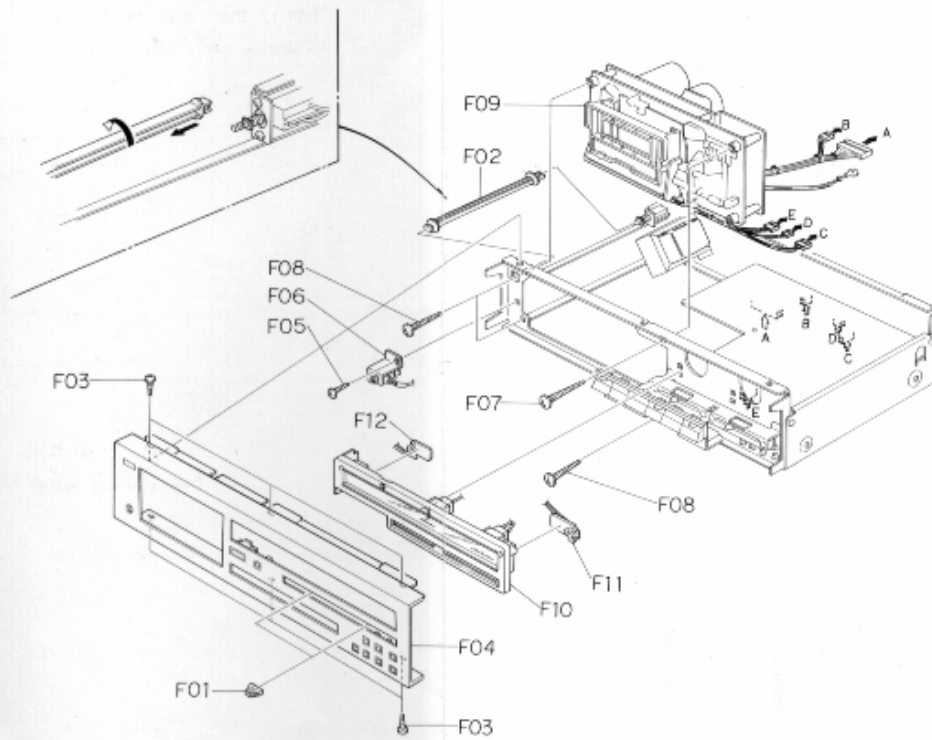

Fig. 3.2
Refer to Fig. 3.2.
- (1) Refer to Fig. 3.2. Remove Front Panel Ass'y referring to item 3.4.
- (2) Remove 5 connectors and the wires connected by wrapping from the F05 (Main P.C.B. Ass'y).
- (3) Remove F01, F02, F03, F04 and the Record Switch Linkage from the Wire Holder assembled with Record Switch, then disassemble F05 (Main P.C.B. Ass'y).
- (1) Refer to Fig. 3.2. Remove Meter Ass'y referring to item 3.7.
- (2) Remove F06, then disassemble F07 (Control Switch Holder Ass'y).
- (2) Remove F08, then disassemble F09 (Switch P.C.B. Ass'y).
- (1) Refer to Fig. 3.2. Remove Mechanism Ass'y referring to item 3.6.
- (2) Press the Eject Button to open the Cassette Case Ass'y.
- (3) Remove F01, then disassemble the piston of the Pneumatic Damper Ass'y.
- (4) Remove F02 and F03 (Cassette Case Holder L Ass'y), then disassemble F04 (Cassette Case Ass'y).
- (5) Remove F05, then disassemble F06 (Cover Plate Ass'y).
- (2) Remove F07, then disassemble F08 (Tape Counter Ass'y).
- (2) Remove F01 and F02, then disassemble F03 (Fly wheel Holder Ass'y) and F08 (Capstan Belt).
- (3) Remove F04, then disassemble F05 (Capstan Motor Ass'y).
- (4) Remove F06, then disassemble F07 (Control P.C.B. Ass'y).
- (5) Remove F09 (Supply Flywheel Ass'y), then disassemble F10 (Take-up Flywheel Ass'y).
- (6) After removing both Flywheel Assemblies, disassemble F11 (Thrust Washer 3 mm), F12 (Thrust Washer 2.6 mm), F13 (Flange Thrust Caps) and F14 (Thrust Springs).